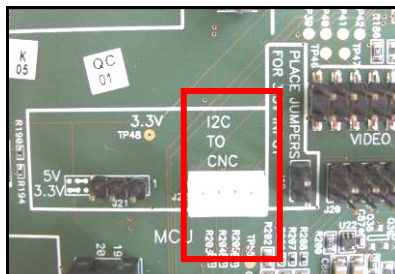

Figure 29: Future use Connector
14. Future use Connector (see Figure 29)